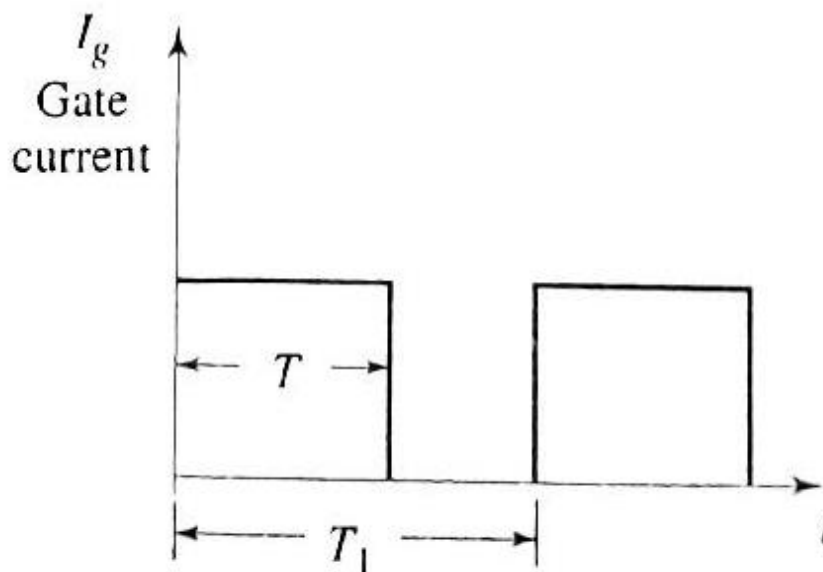

Fig. 1.8 Pulse gating
- In practice, gate pulse width $T \geq t_{on}$ (SCR turn-on time) (Fig.1.8 shows T).
A duty cycle is defined as the ratio of pulse on period to the periodic time of pulse. In the Fig. 1.8 pulse-on period is T and the periodic time is T_1 . Therefore duty-cycle is given by